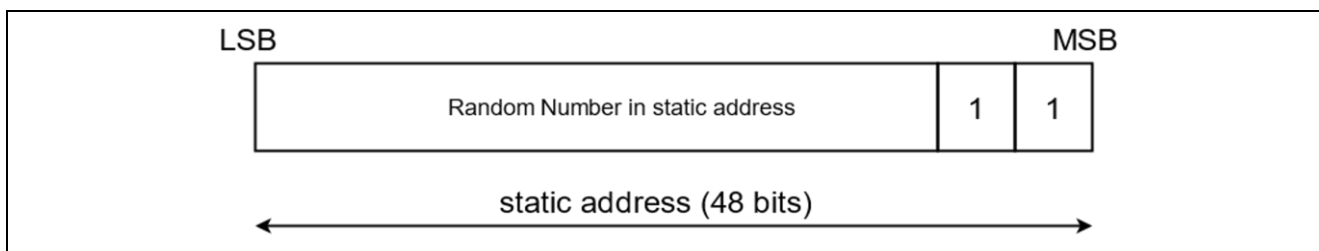

Figure 5.6 Static address format
Since Beacon stack does not check format of BD address written in each area (1)-(2), when setting static address, set value that matches the format shown in Figure 5.6.